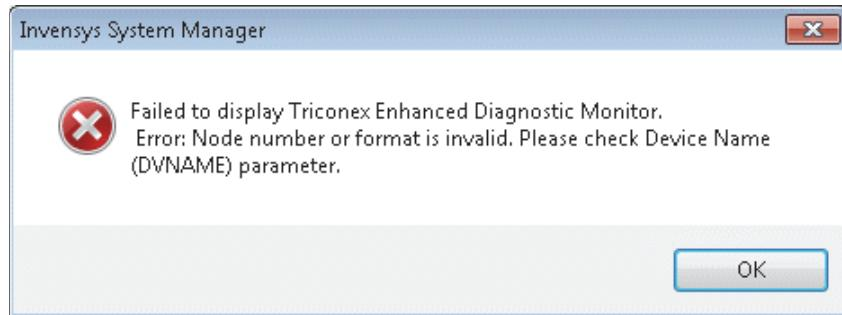

Figure 8-24. Error Message
3. If System Manager fails to invoke the Triconex EnDM application, an error message will be posted to notify the user. For example, invalid node number, as shown in Figure 8-24, below.